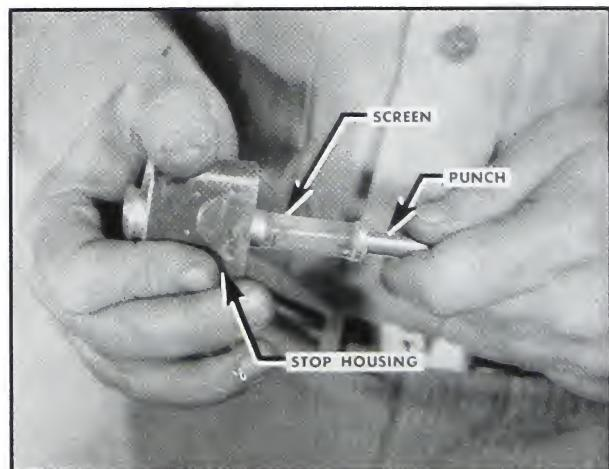

Fig. 5-242. Press in screen assembly
2. If the screen needs replacement, assemble a new "O" ring around the screen, coat with Lubriplate nad press the screen assembly into the housing. Use a flat end punch against the base of the screen to press it in. Fig. 5-242.